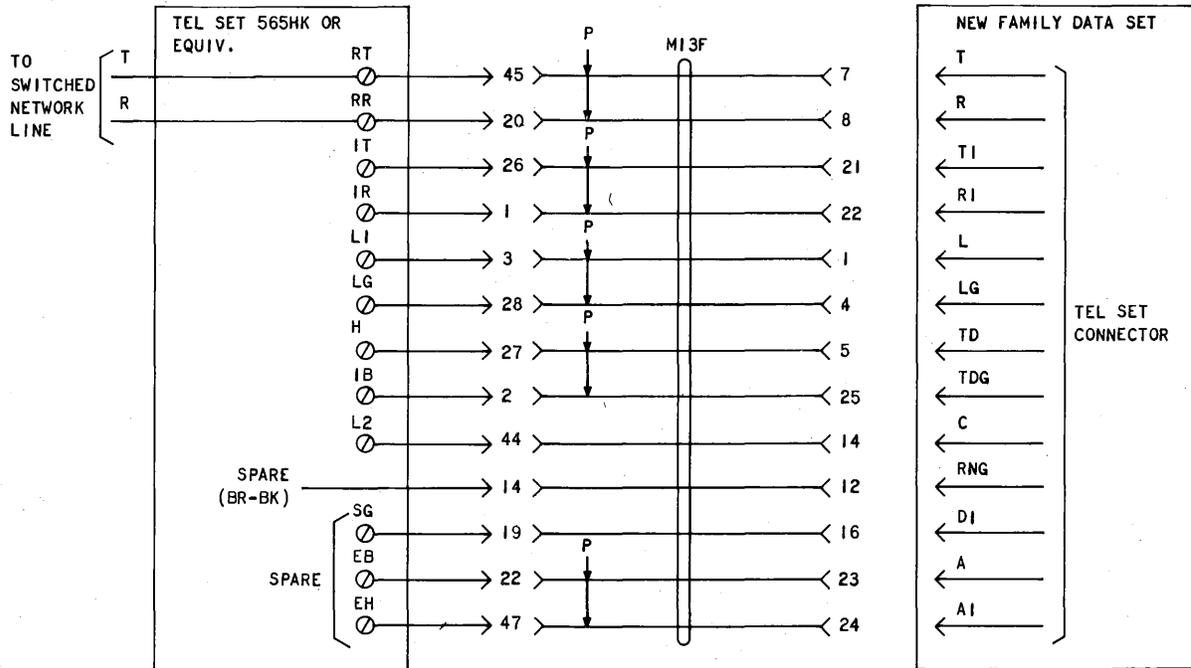

Fig. 8—Single Data Set Connections—DDD
**4.10** DSs intended for application on the switched telecommunications network are shipped with an M13F cord. This cord connects to the DS through a 25-pin connector and, for individual data set/telephone set arrangements, to a 6-button key telephone set through a 50-pin connector (Fig. 8).